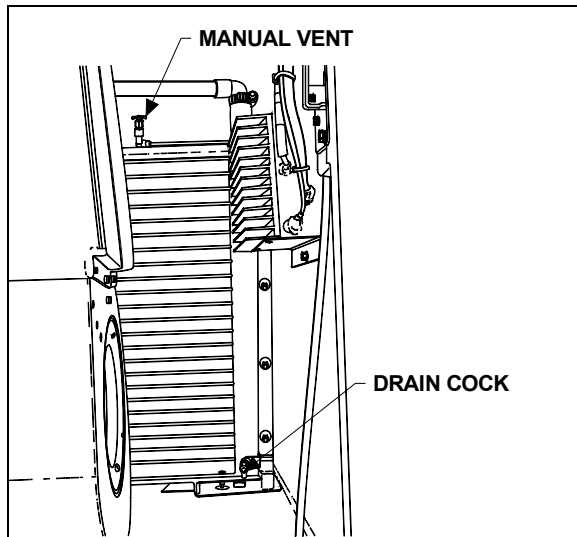

FIGURE 39: HVAC COMPARTMENT
4. Open drain cock in bottom of heater core, then open manual vent located on top of heater core (Fig. 39) in order to allow air to enter while draining.